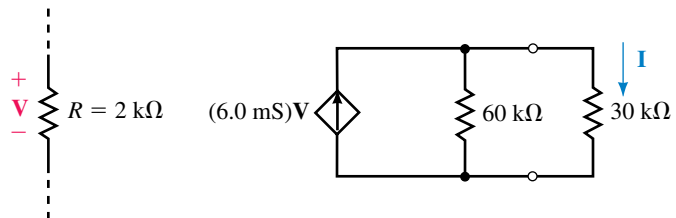

FIGURE 19-50
4. Repeat Problem 2 for the circuit of Figure 19-50.